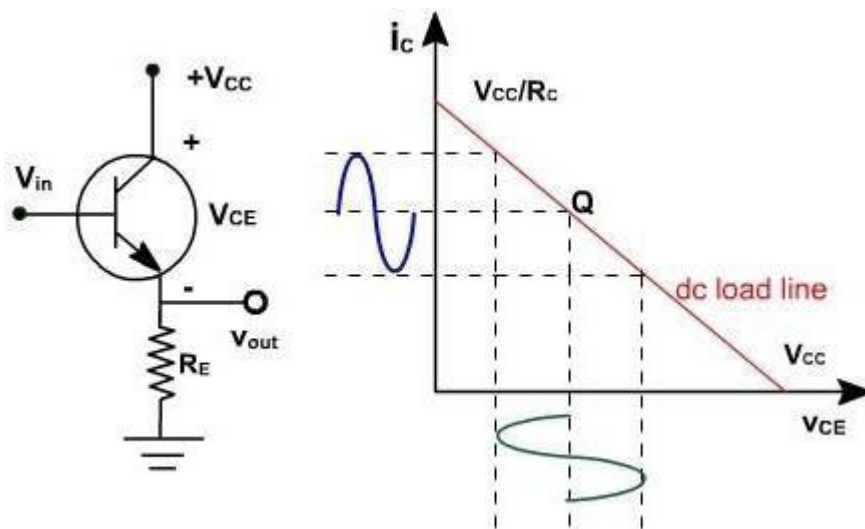

Fig. 1
Fig. 1, shows a common collector (CC) amplifier. Since there is no resistance in collector circuit, therefore collector is ac grounded. It is also called grounded collector amplifier. When input source drives the base, output appears across emitter resistor. A CC amplifier is like a heavily swamped CE amplifier with a collector resistor shorted and output taken across emitter resistor.
This is the equation of dc load line. The dc load line is shown in Fig.1.